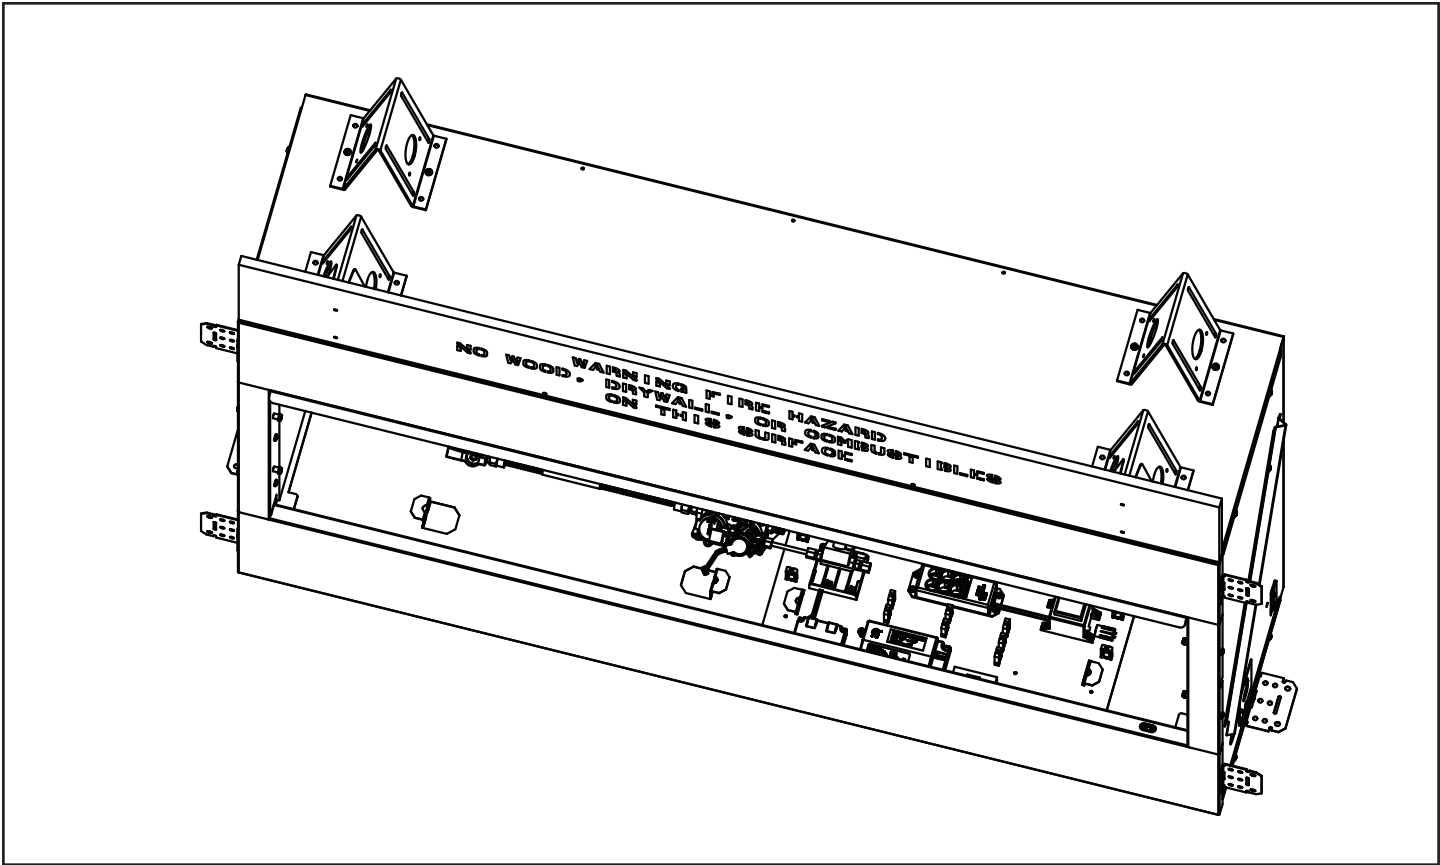

Figure 5.2 - Valve Access
**NOTE:** This appliance does include a manual gas shutoff valve that is located in the valve compartment. This manual gas shutoff valve is accessible for service by removing the control door. See Figure 5.2. The valve is most accessible if it is located forward in the control cavity of the appliance.